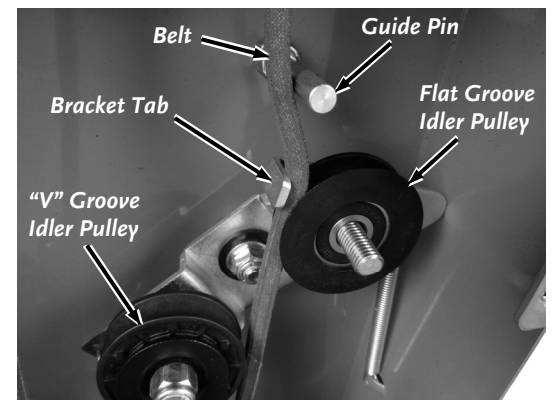

Figure 28
9. Install the small Spacer first, then the Flat Groove Idler Pulley with the Belt in the groove. Make sure you place the Belt correctly between the Idler Pulley, Bracket Tab, and Guide Pin (**Figure 28**).